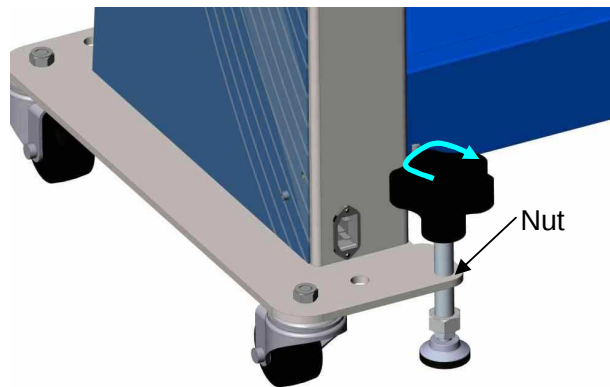

Figure 6
15. Secure machine in place by turning the adjustable foot down by hand, until it's pressed against the floor. Do not over tighten. Manually lock the adjustable foot with the nut (figure 6). Repeat procedure to other side. The machine does not need to be leveled on most floors.